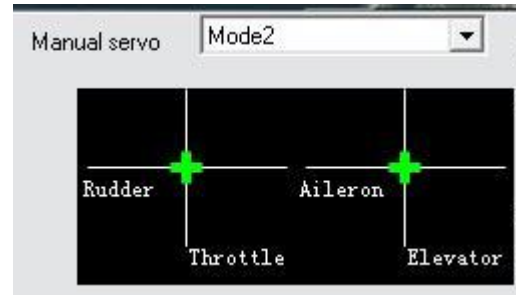

Figure 30
- In the flight data interface, stick positions are shown as per the diagram below. Mode 2 is indicated where the throttle and rudder are on the left stick, the aileron and elevator are on the right stick, as shown in Figure 30.